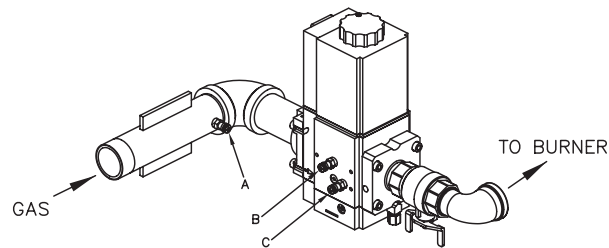

Fig. 39: Gas Pressure Measurement Location
2. Attach (1) 12" scale manometer to an upstream bleedle valve on the gas supply pipe to the heater (Measure point "A" in Fig. 39).
3. Attach (1) 24" scale manometer to the manifold pressure tap located on the valve (Measure point "C" in Fig. 39).
4. Attach (1) 12" scale manometer near the fan-proving switch. Pull black cap from air pressure switch tee and connect the manometer. NOTE: Retain caps for reinstallation later.
5. Main burner ignition: Check manifold gas pressure at gas valve outlet pressure tap (connection "C" in Fig. 39). This should read per the values in Table R for natural gas and propane gas.